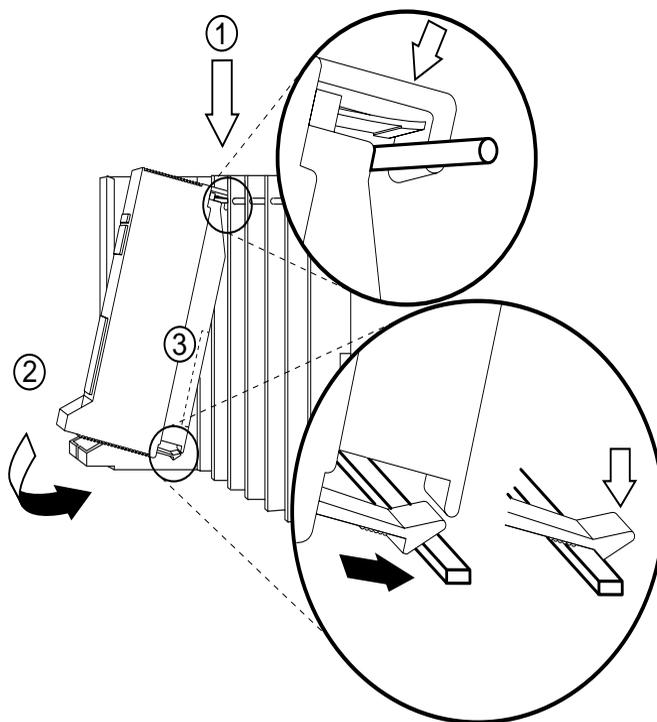

Figure 9-4. Replacing a Module in the Carrier
- ▶ 4. Reinstall the power supply module by hooking it onto the rod at the top of the carrier and then swinging it down into place. See Figure 9-4.
- ▶ 11. Replace the processor module into the carrier. Figure 9-4 on page 9-13.